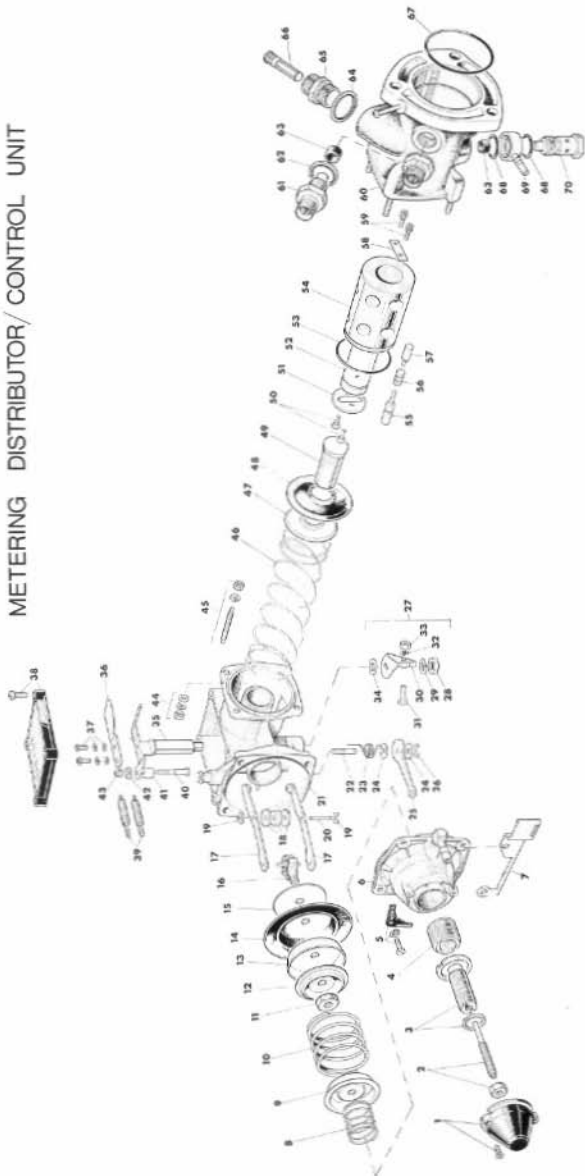

Fig. 18
## KEY TO (FIGURE 18) EXPLODED ILLUSTRATION OF METERING/CONTROL UNIT
(These are shown in Figure 18 items 2, 3, 4 and 45).